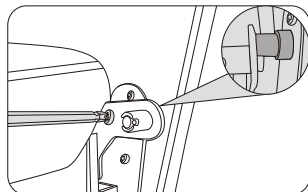

Figure 8
- Unscrew the screw on the front-end of armrest (note: be careful not missing the plastic block for fixed). (figure 8)